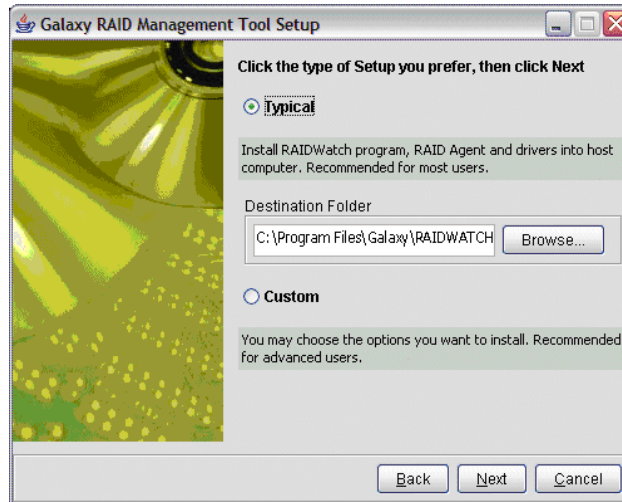

Figure 3-7: Choose an Installation Mode
Step 3. If you accepted the License Agreement in *Figure 3-6*, a new window with two installation options will appear. These options, shown in *Figure 3-7*, are *Typical Install* and *Custom Install*. The default is set to *Basic Install*. All users are recommended to install RAIDWatch program using the default settings. This will create a new “Galaxy” folder on the computer chosen as a management center. If you want to install RAIDWatch in a different folder, type in a new location or click the *Browse* button to select a destination folder. If you follow the default selection and click the *Next* button, the install shield will start install the RAIDWatch software, RAID Agents, and necessary drivers on the computer.